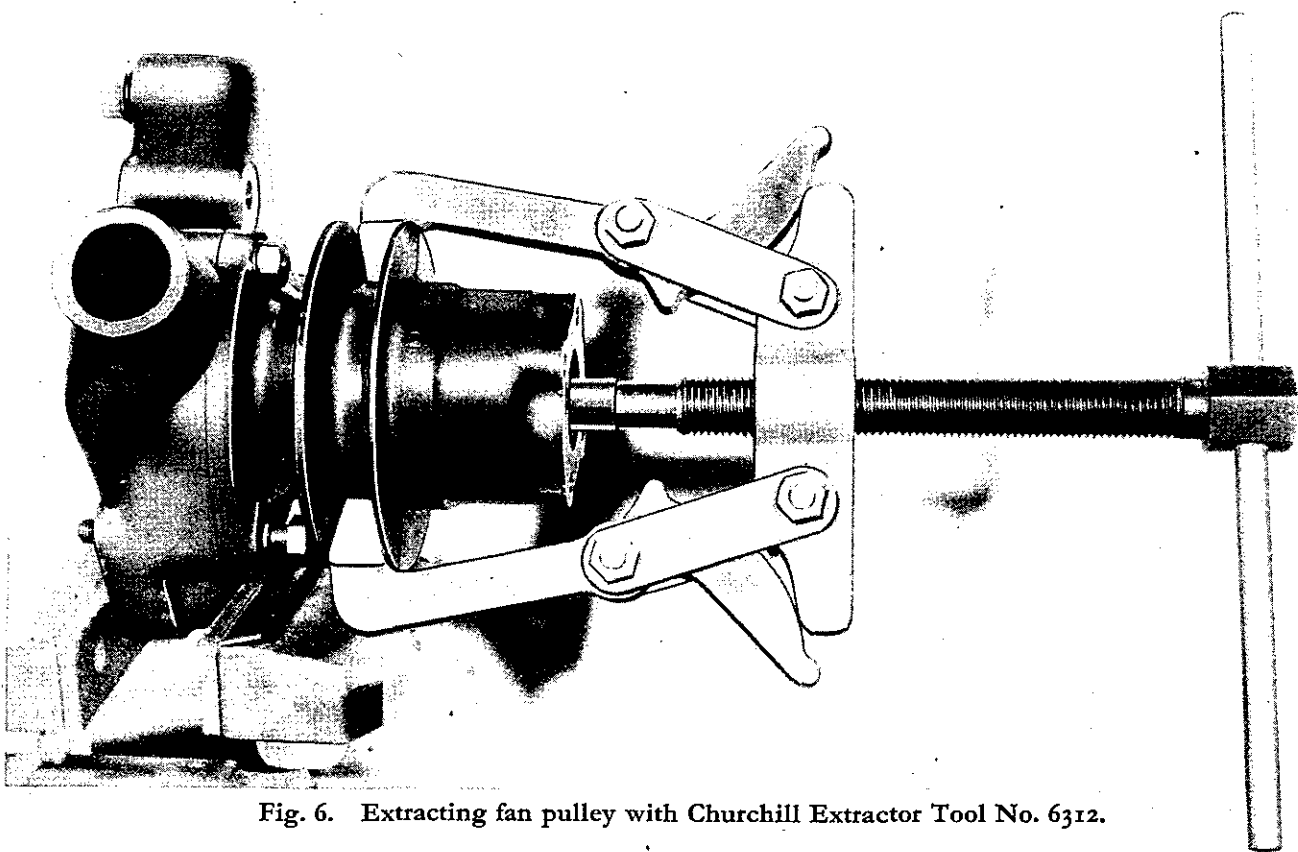

Fig. 6. Extracting fan pulley with Churchill Extractor Tool No. 6312.
2. Remove Simmonds Nut and Washer from pump spindle and extract fan extension bracket as shown in Fig. 6.